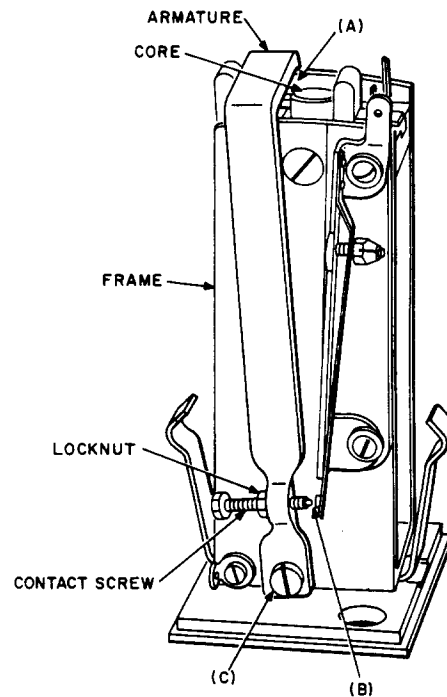

Fig. 3 — 85F-Type Relay — Correct Unoperated Armature Position
(1) 85F-Type Relay — The armature shall move freely in its bearings. Gauge by feel. See Fig. 3(C).
2.09 *Armature Position* — Fig. 3(A): The front edge of the armature shall be back of the adjacent side of the core when the armature is in the unoperated position. Gauge by eye.